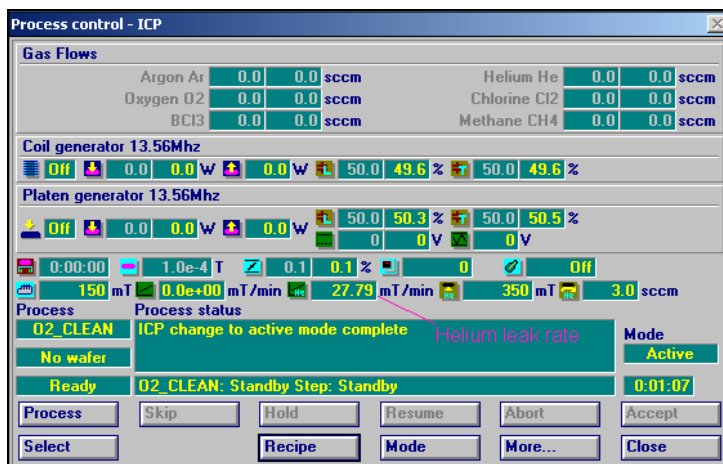

Fig.25 Helium leak up rate display
2) **Helium leak up rate check:** In order to control the wafer temperature during etching, helium gas is introduced to the backside of the wafer. Then a 1-2kg mechanical wafer clamp will slide down to hold the wafer onto a lip-seal mounted on the electrode, so the temperature controlled helium can be keep at specific pressure designed in recipe. Typically, a helium leak up rate should not exceed 15mTorr/min for DRIE; otherwise the process will be halted at this step (Fig. 25). For details setting of the helium back side cooling, please refer to section 6.1.2.